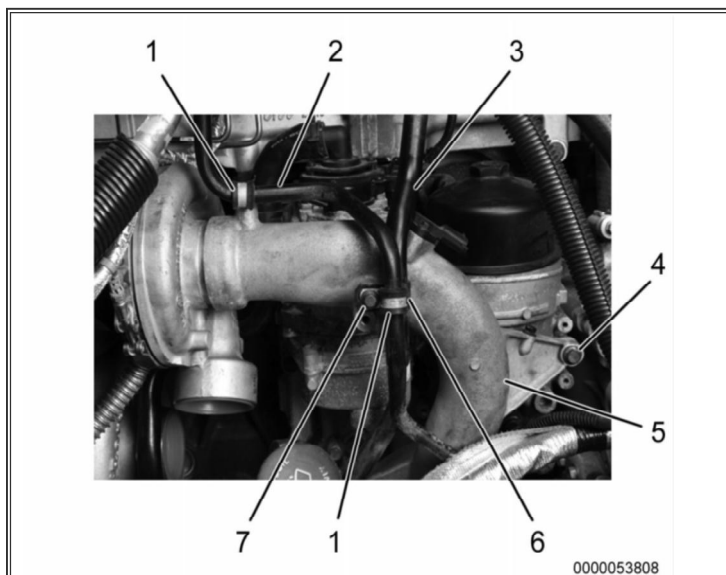

Figure 19: Coolant Supply Tubes
13. Remove two coolant tube P-clamps (**Figure 19**, Item 7) from two coolant return tube P-clamps (**Figure 19**, Item 1), coolant supply tube P-clamp (**Figure 19**, Item 6), coolant return tube (**Figure 19**, Item 2) and coolant supply tube (**Figure 19**, Item 3).
14. Position coolant return tube (**Figure 19**, Item 2) and coolant supply tube (**Figure 19**, Item 3) aside.
15. Remove two HP turbocharger inlet duct bolts (**Figure 19**, Item 4) from HP turbocharger inlet duct (**Figure 19**, Item 5).